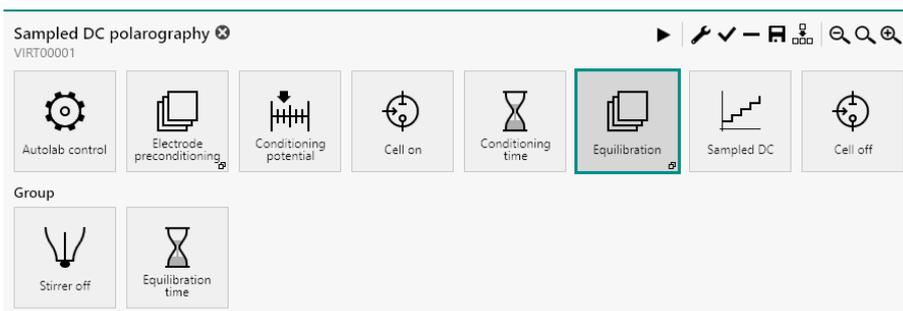

Figure 626 The Equilibration group
- **Equilibration:** this command group is used to create an equilibration step in the procedure. The commands in this group are used to switch the stirrer off and wait for the specified amount of time (see figure 626, page 531).